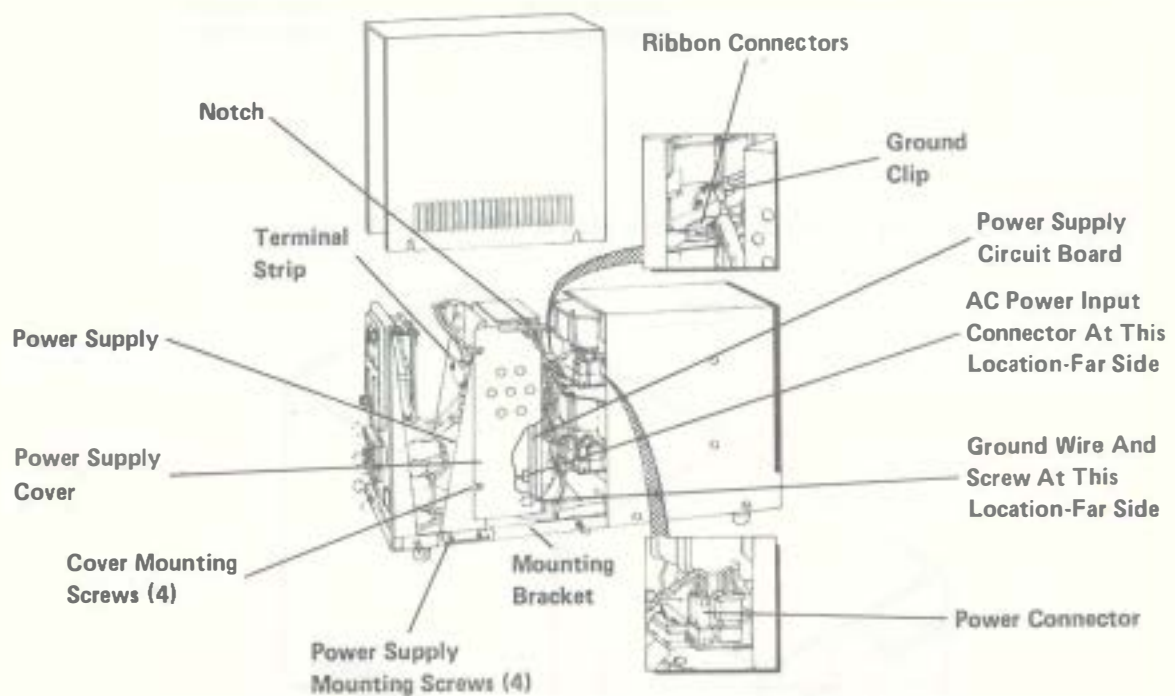

Figure 5-24. 5 1/4" Diskette Drive Connections
5. Disconnect the power connector, ground clip, and ribbon connectors from the back of the diskette drive being removed. See Figure 5-24.
4. Reconnect the power connector, ground clip, and ribbon connector to the rear of the diskette drive. Make sure the connectors to the other diskette drive are also attached. See Figure 5-24.
2. Remove the screw and star washer securing the ground wire to the cover. Remove the ground wire. See Figure 5-24.
3. Remove the four screws securing the power supply and bracket to the chassis. Remove the power supply. See Figure 5-24.
5. Slide the power connector harness through the notch on the cover very carefully and remove the power supply cover. See Figure 5-24.
7. Disconnect AC power input connector on power supply circuit board. See Figure 5-24.
2. Reconnect AC power input connector to receptacle on circuit board. See Figure 5-24.
4. Install the power supply mounting cover and secure the cover to the mounting bracket and circuit board assembly with the four mounting screws. See Figure 5-24.
5. Slide the power connector harness through the notch in the cover ready for connecting to the disk drive(s). See Figure 5-24.
6. Install four mounting screws and secure power supply assembly to chassis. See Figure 5-24.
7. Install ground wire terminal with external tooth star washer and screw securing the ground wire to the cover. See Figure 5-24. Make certain star washer is located at face of power supply cover to ensure proper grounding.